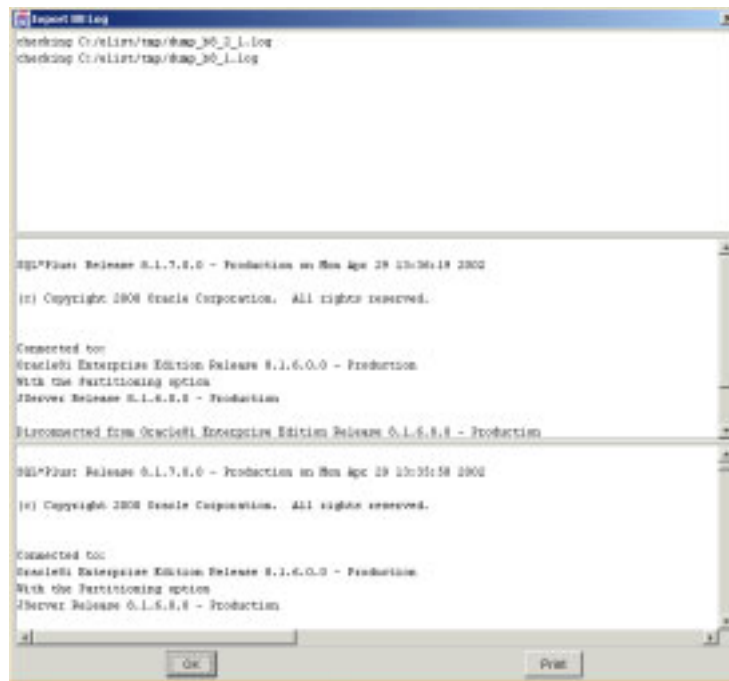

Figure 5.33 Export B8 Log Window
7. On the Input window, click OK. The Input window closes, the B8 file is saved, and the Export B8 Log window opens (Figure 5.33).